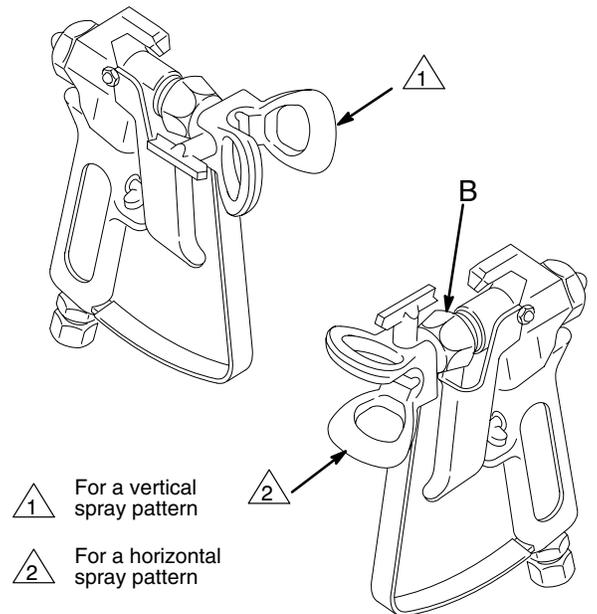

Fig. 7
- c. Test the spray pattern. To adjust the direction of the spray pattern, engage the gun safety latch and loosen the retaining nut (B). Position the tip guard horizontally for a horizontal pattern or vertically for a vertical pattern. Hold the tip guard in place while tightening the retaining nut. See Fig. 7.